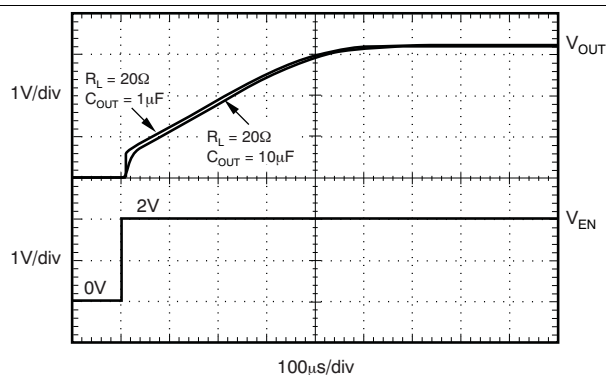

Figure 21. TPS73701 Turnon Response
The enable pin (EN) is active high and is compatible with standard TTL-CMOS levels. V_{EN} below 0.5 V (maximum) turns the regulator off and drops the GND pin current to approximately 10 nA. When EN is used to shutdown the regulator, all charge is removed from the pass transistor gate, and the output ramps back up to a regulated V_{OUT} (see Figure 21).